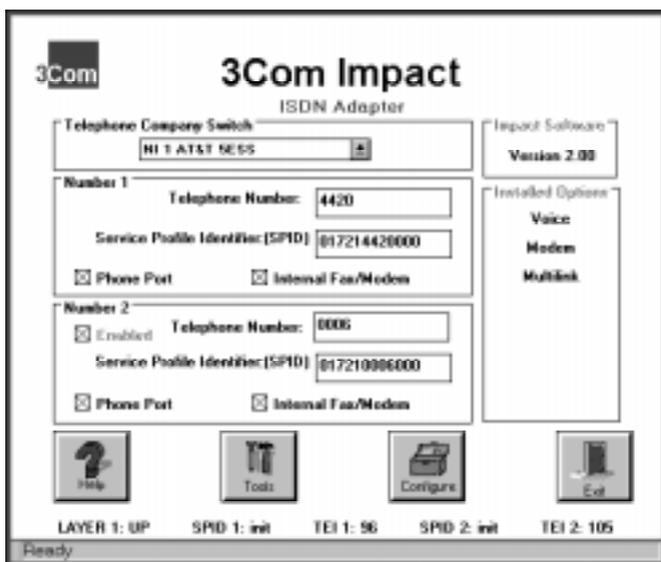

Figure 2-3 Configuration Dialog Box
- If the digital modem is connected to COM1, the 3Com Impact Configuration dialog box appears, as shown in Figure 2-3. Go on to step 5.
Click Connect. The 3Com Impact Configuration dialog box appears, as shown in Figure 2-3.